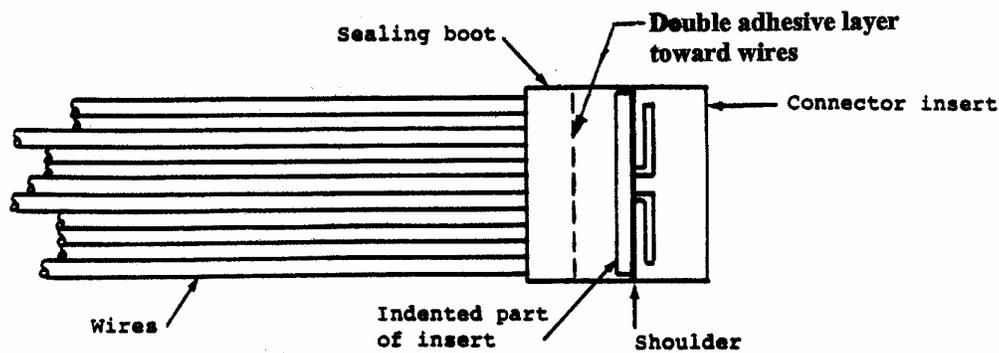

Figure 7-1. Sealing Boot Position on MTC50 Insert
- The end of the boot with a double layer of adhesive is positioned toward the wires. see Fig. 7-1
- The sealing boot goes over the SolderSleeve terminators and over the indented part of the insert as shown in Figure 7-1.